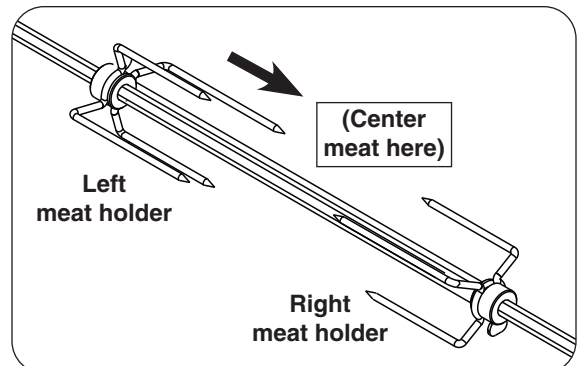

Fig. 18-4 Install meat holders
4. Slide right meat holder into position on rotisserie rod as shown in Fig. 18-4 and tighten screw.
5. Slide meat onto rod and into holder (Figs. 18-4).
6. Slide left meat holder onto rod and into meat (Fig. 18-4). Tighten thumb screw.